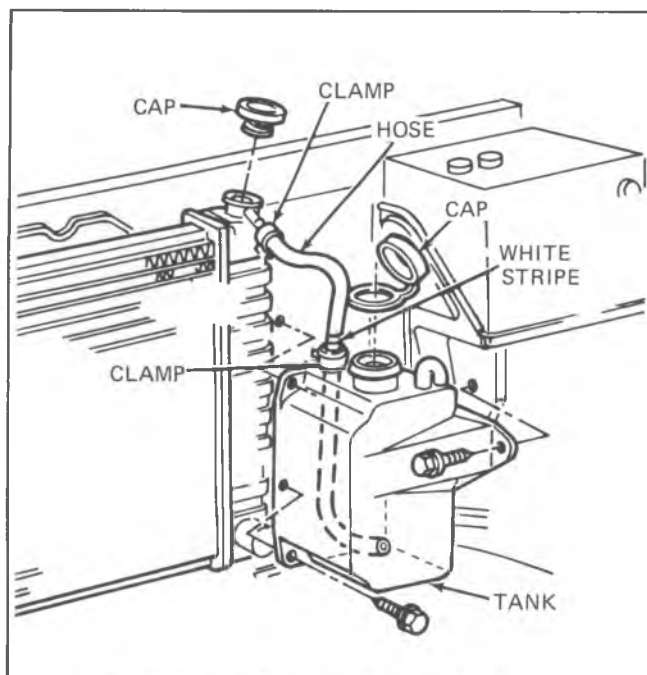

Fig. 5--Coolant Recovery System - CK Series
8. (C-K Models) Insert coolant recovery hose in tank as far as the first white stripe (Fig. 5).
Refer to Figures 5 through 8 for removal and installation of applicable coolant recovery system.